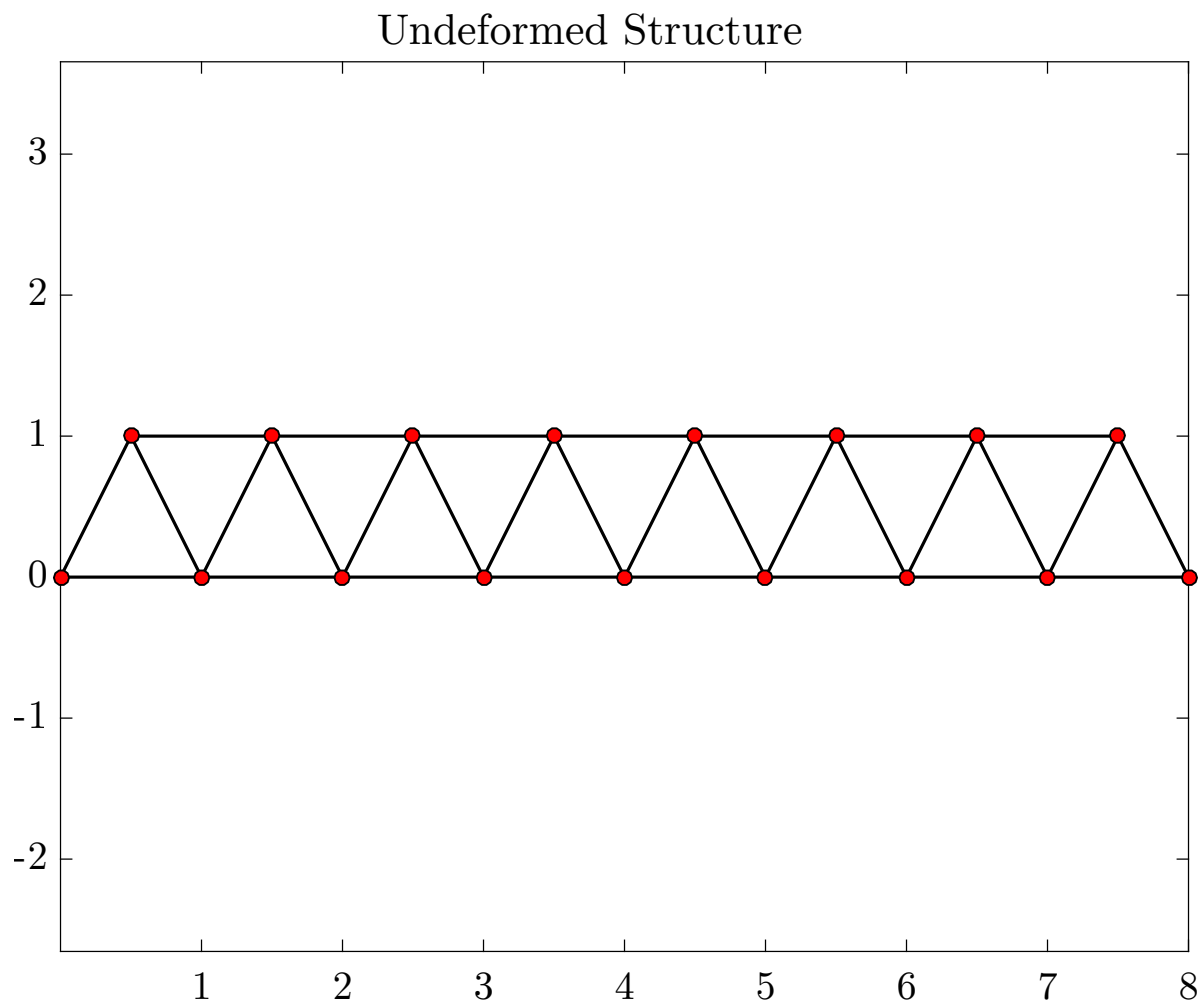

Figure 2: The figure generated from reading `truss2.inp` using the Matlab script
- (b). Test your function by opening and plotting all of the input files provided to you. You should be able to produce figures similar to the one shown in Figure 2